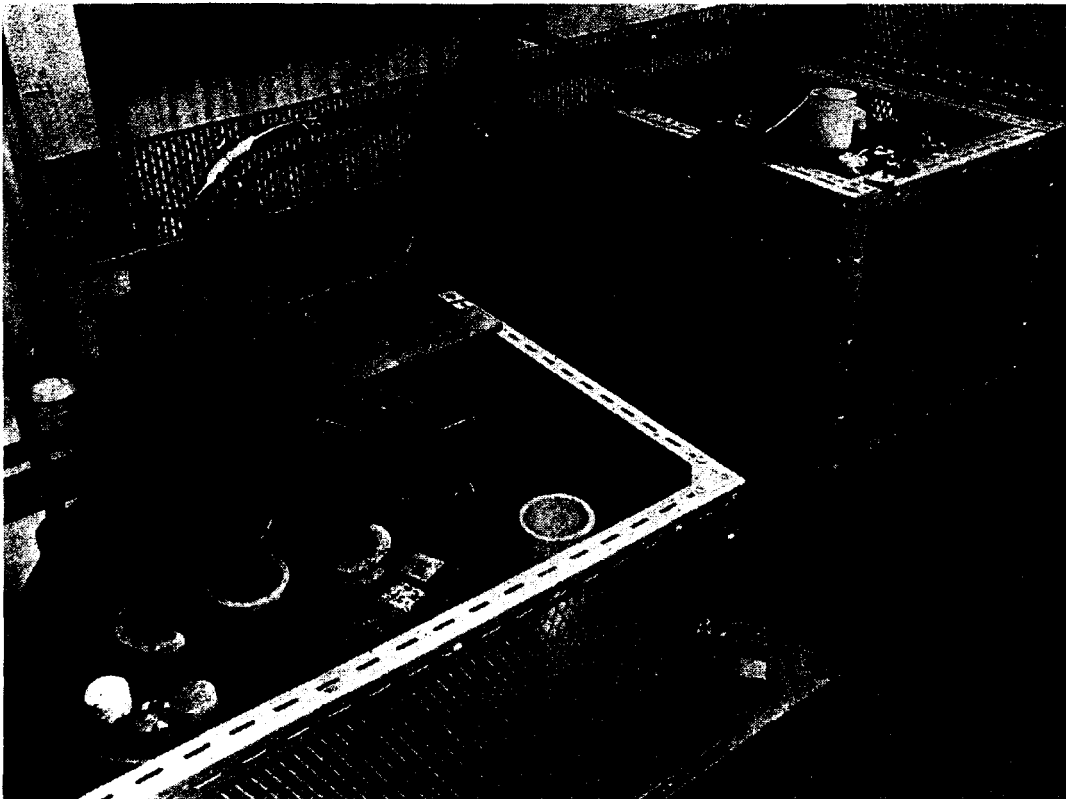

FIG. 1—HIRSCH ELECTRIC FURNACES
- (b) Two Hirsch carbon-resistance electric furnaces which are capable of heating to 1800°C. These are used to measure refractoriness under load and melting point. The furnaces are shown in FIG. 1. In the left-hand furnace a cube of the material under test is placed in the hot zone in the centre, and a standard load is applied by means of the weights which can be seen above. The temperature of the furnace is raised at a standard rate, and the temperature at which 10 per cent subsidence occurs is determined. The right-hand furnace is used to find